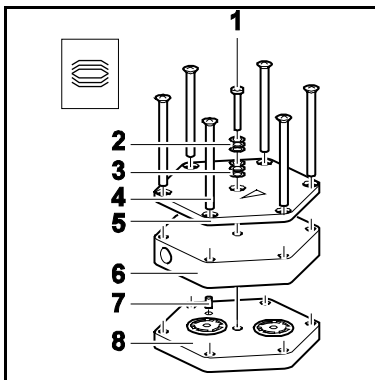

Fig. 24: Refitting pump head
1. For two-headed pumps: On the pneumatic head connection (3), loosen the union nuts (2) by hand. Then slightly loosen the angle-fitting (1) in the pump head (4) by turning it anticlockwise, so that the connecting tube can be pulled out.
2. Mark the position of top plate (fig. 24/5), head plate (fig. 24/6), intermediate plate (fig. 24/8) and adapter relatively to each other by a drawing line (for two-headed pumps: at both pump heads) with a felt-tip pen (1). This helps to avoid incorrect assembly later.
1. Completely unscrew the screw(s) (1) in the center of the top plate (2) and take off the disk springs (Fig. 24/2 and 3). With a two-headed pump: Unscrew the screw(s) and take off the disk springs from just one pump head.
2. Remove top plate (2) and head plate (3) from intermediate plate (5).
2. Place the intermediate plate (8) with valve plates/sealings on the adapter in accordance with the felt-tip pen marking.
3. Place the head plate (6) on the intermediate plate (8) in the position indicated by the guide pin (7).
4. Place the top plate (5) on the head plate (6) in accordance with the felt-tip pen marking.
5. Gently tighten screws (4) in diagonal order.
6. Insert screw(s) (1) with disk springs (2, 3) in the center of the top plate (5). In doing so, make sure that the disk springs are arranged properly (see fig. 24).
7. Screw in the screw/screws (1) in the centre of the pump top plate (5) until the bottom of the screw head is flush with the top plate; then screw one final half turn to tighten. (tightening torque: N810: 20 Ncm; tightening torque: N 820/ N 840/ N 842: 25 Ncm).